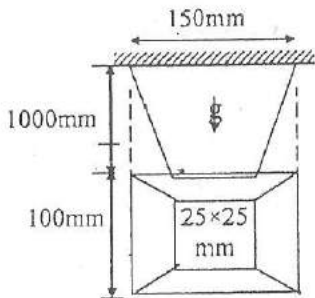

Figure 5
- (b) Determine the deflection at the free end under its own weight using two elements of bar as shown in Figure 5. Assume $E = 200 \text{ GPa}$, $\rho = 7800 \text{ kg/m}^3$.